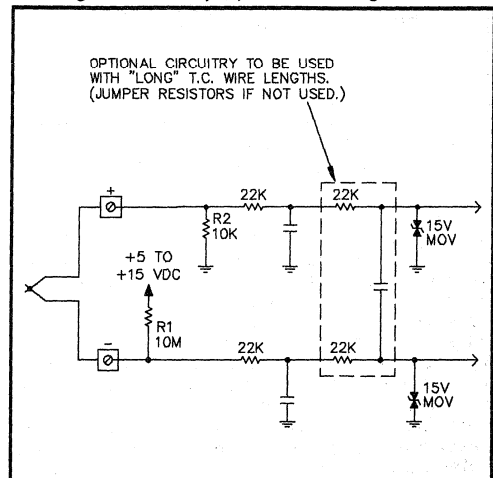

Figure 8.10. Complete thermocouple signal conditioning.
**Thermocouples** -- Thermocouples were discussed in Section 6. However, because they produce low-level (-10mV to +50mV) differential signals, they deserve special attention. In addition to the filtering and surge protection techniques described above, Figure 8.10 shows